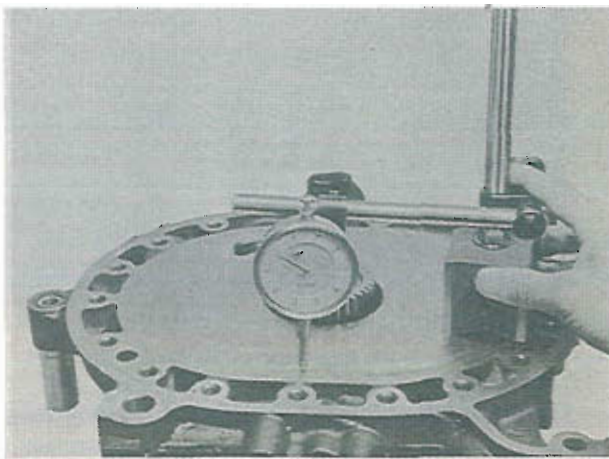

Fig. 1-40 Checking of front housing wear
5. Check for wear on the rotor sliding surfaces of the housing with a dial indicator, as shown in Fig. 1-40. If the wear exceeds 0.10 mm (0.004 in), replace the housing.